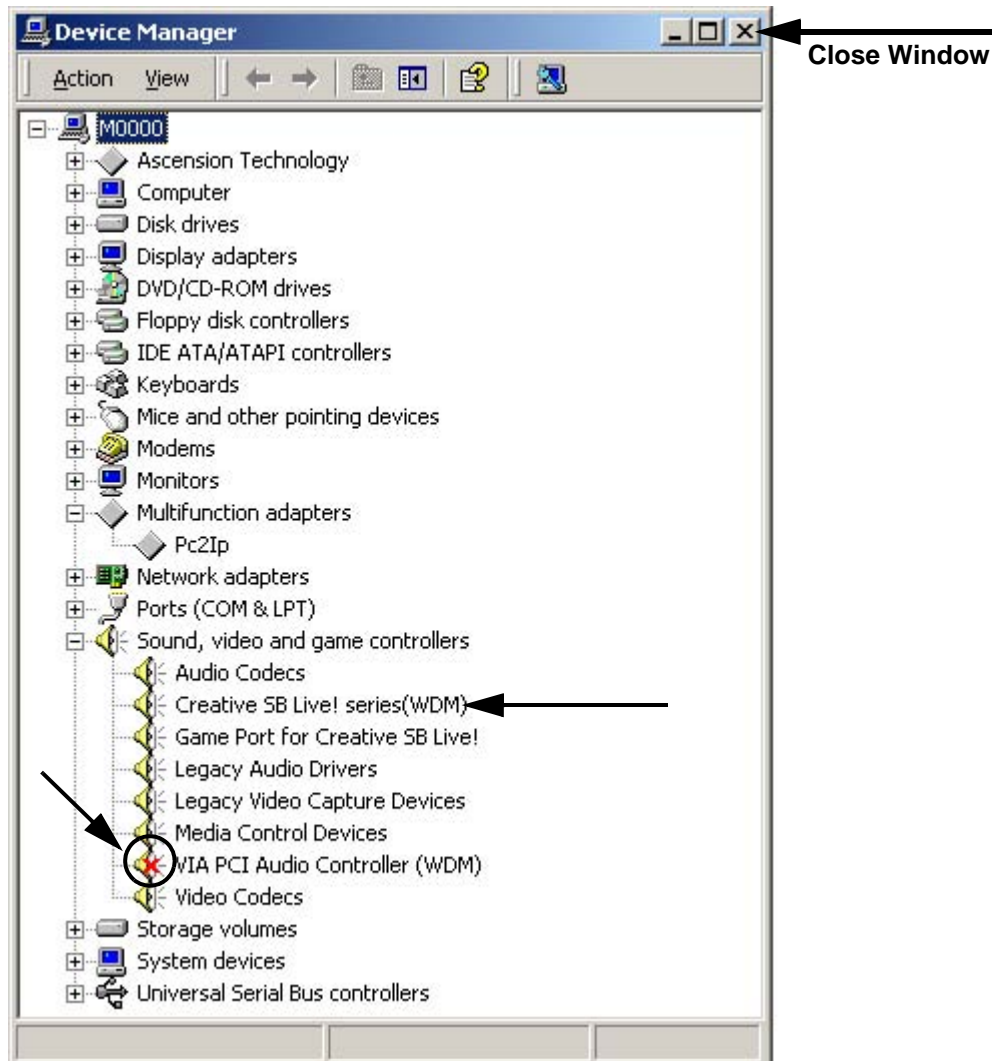

Figure 8-71 Device Manager
- 3.) Verify that the Device Manager appears as shown in Figure 8-71. Your display may vary.